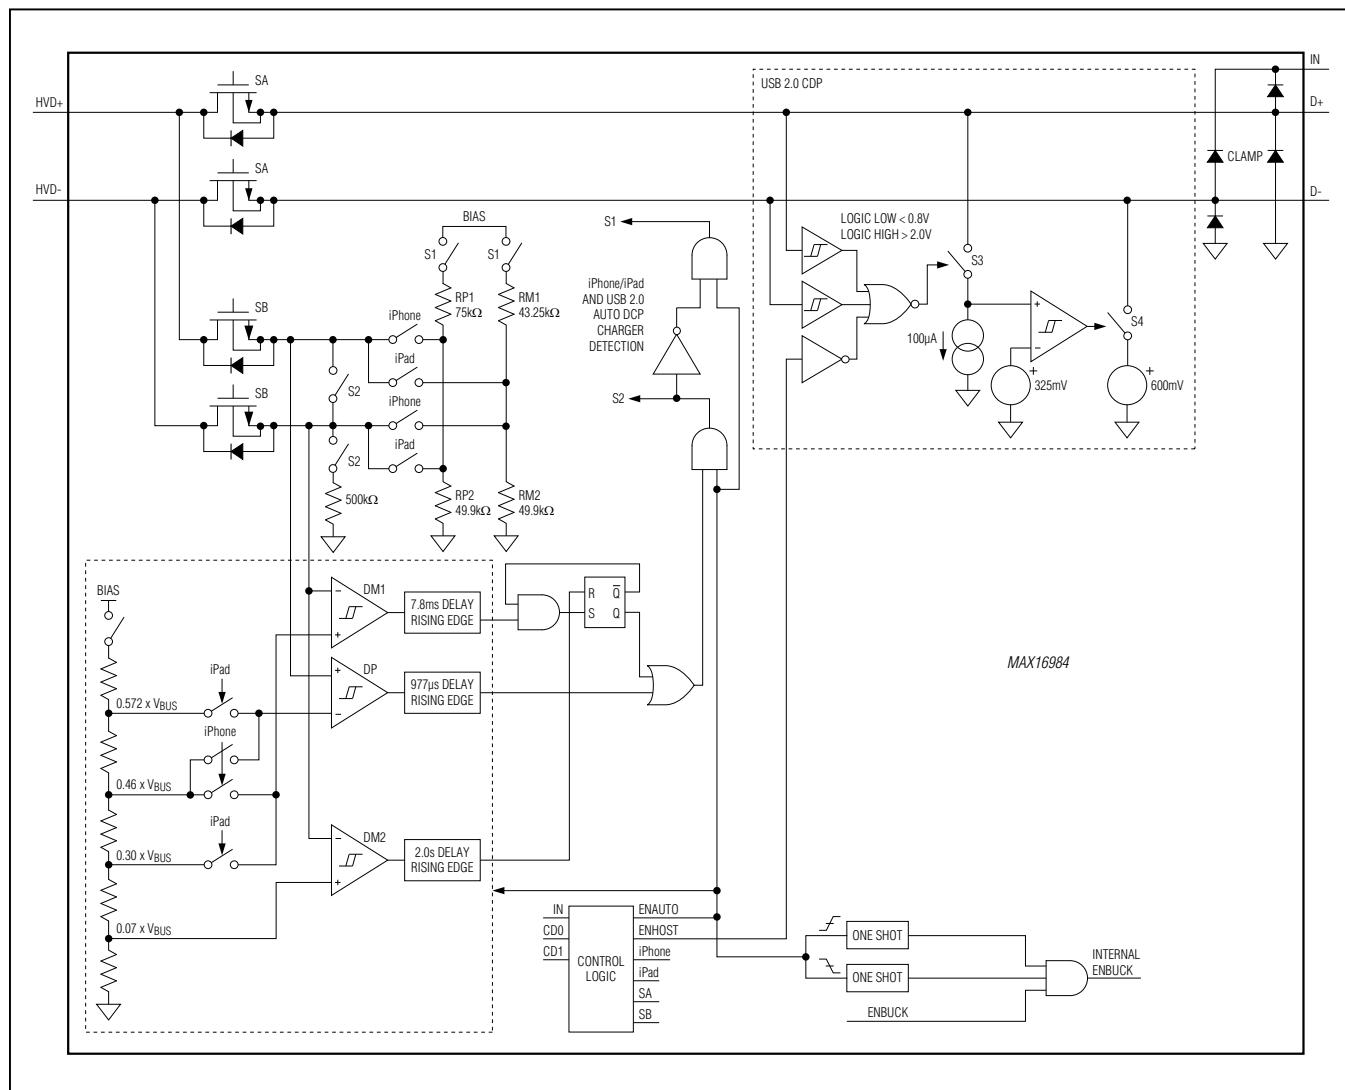

Figure 7. Data Switches and Host Adapter Emulator
a logic-level low/high for USB low-speed (LS) and USB full-speed (FS) data transmission and charging downstream port (CDP) mode. See Table 1 for CDP mode and Figure 7 for a detailed description of all modes.
After a USB-compliant portable device detects V_{BUS}, it is allowed to check if the host device is a CDP by applying a voltage to HVD+ and checking the voltage on HVD-. At this time, it is assumed that HVD+ and HVD- are logic-low, which means that the voltage is less than 0.8V. Then the port-detection circuit is enabled and switch 3 is on (Figure 7). The portable device then drives HVD+ to 0.6V (typ). The comparator closes switch 4 and the HVD- line is then driven to 0.6V (typ). The portable device can now detect that it is connected to a charging port.
provide the proper Apple-compliant iPad bias voltage. Data switches SA are opened and switches SB are closed (Figure 7). Initially, the iPad termination resistors are presented on the HVD+/- pins, the MAX16984 then monitors the voltages at HVD+ and HVD- to determine the type of device attached.
The MAX16984 features an iPhone/DCP auto-detection mode for emulating dedicated iPhone 1.0A charging and USB-IF DCPs. CD1/CD0 must be set high/high to activate iPhone/DCP auto-detection mode. In this mode, the high-voltage-protected HVD+ and HVD- pins are disconnected from the low-voltage D+ and D- pins and are initially connected to internal resistor-dividers to provide the proper Apple-compliant iPhone bias voltage. Data switches SA are opened and switches SB are closed (Figure 7). Initially, the iPhone termination resistors are presented on the HVD+/- pins. The MAX16984 then monitors the voltages at HVD+ and HVD- to determine the type of the device attached.